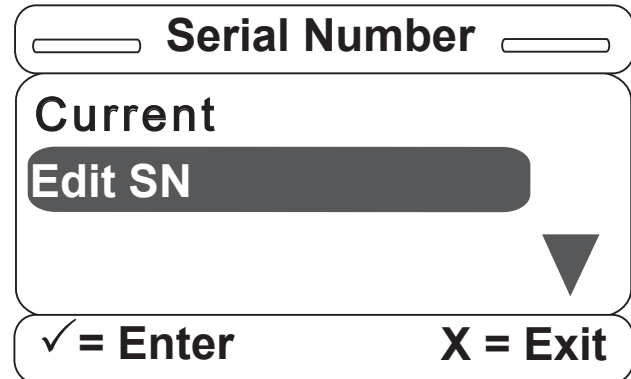
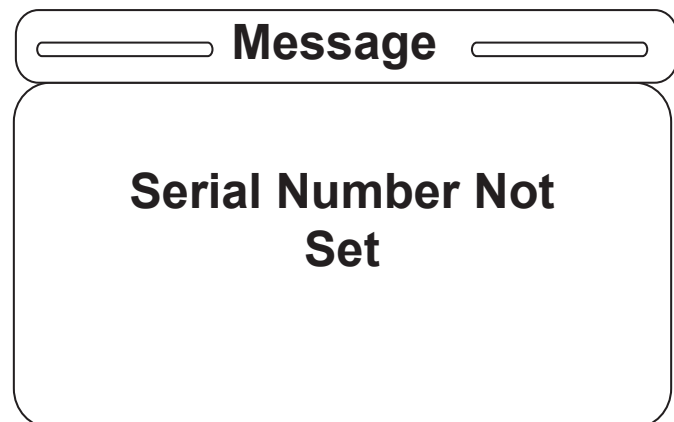

Figure S-23
Figure S-24
23. Once the Serial Number option is selected, the screen in Figure S-23 will be displayed. There are two options available while in the Serial Number Option screen (see Figure S-23). The Current SN item will display the saved serial number, while the Edit SN item will allow the user to edit the existing serial number. Select the Edit SN option and press “Enter” on the footboard panel. If needed, press “Exit” to cancel the operation.
24. If the Current SN item is selected and no serial number was previously entered by the user, the screen in Figure S-24 will be displayed. You will the need to return to Figure S-23 and select Edit SN.